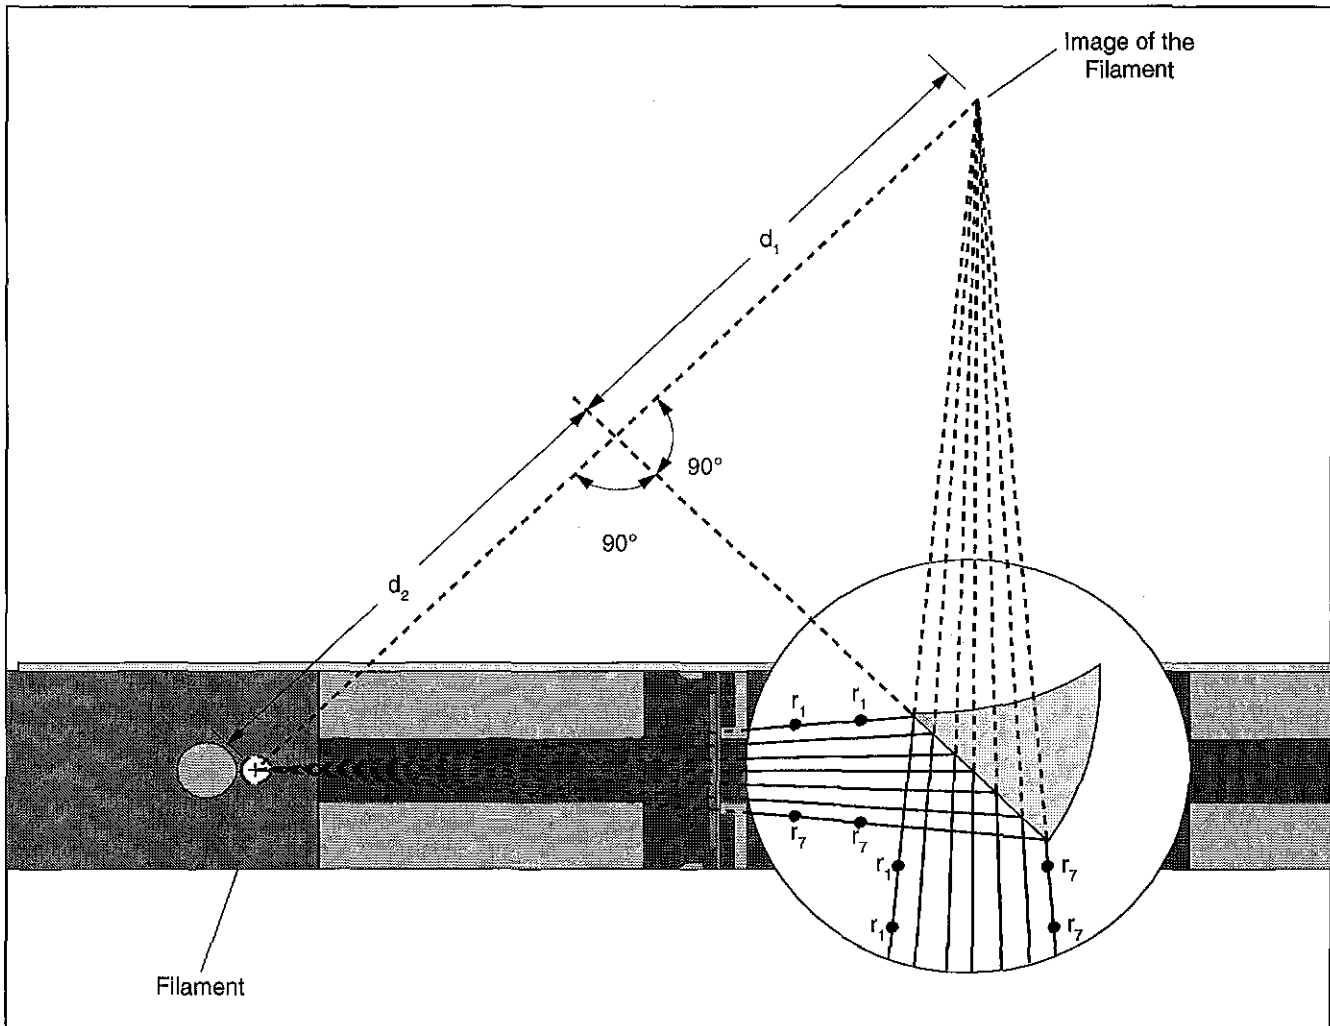

Figure 3.2 Ray Tracing
Remove the paper and reconstruct the rays as shown on the next page (Figure 3.2), using a pencil and straightedge. If you need to, tape on additional pieces of paper. Draw dotted lines to extend the incident and reflected rays. (If this ray tracing technique is unfamiliar to you, review ray tracing in Experiment 1: Introduction to Ray Optics.)
- ② What is the perpendicular distance from the filament to the plane of the mirror (distance d_1 , as shown in the Figure 3.2)? _____
- ③ What is the perpendicular distance from the image of the filament to the plane of the mirror (distance d_2 , as shown in the Figure)? _____
- ④ What is the relationship between object and image location for reflection in a plane mirror?